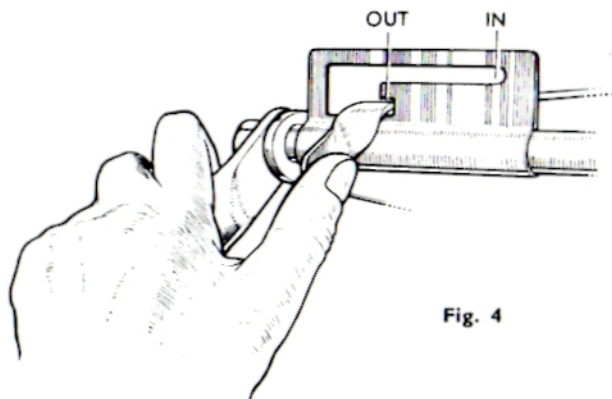

Fig. 4
4. See that the clutch lever (Fig. 4) is in the "OUT" position.
MOST IMPORTANT. Do not attempt to operate this release unless the mower clutch lever (Fig. 4) is in the "OUT" position.
movement of the clutch lever in the clutch lever gate (Fig 4). Tighten pivot pin nut firmly.